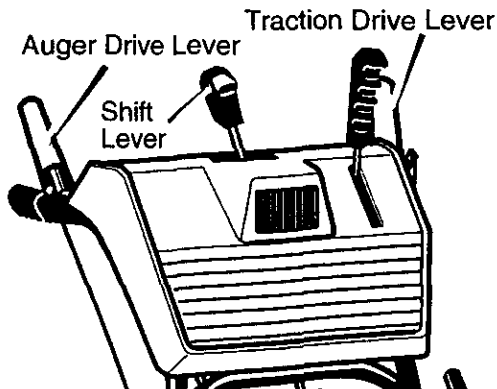

Figure 17
1. To stop throwing snow, release the **auger drive lever**. See Figure 17.
1. To shift, release the traction drive lever (**left hand**) and move the speed shift lever to the speed you desire. See Figure 17. Ground speed is determined by snow conditions. Select the speed you desire by moving the speed shifter lever left into the appropriate notches on the shift lever plate:
1. Push down the auger driver lever (**right hand**). See Figure 17.